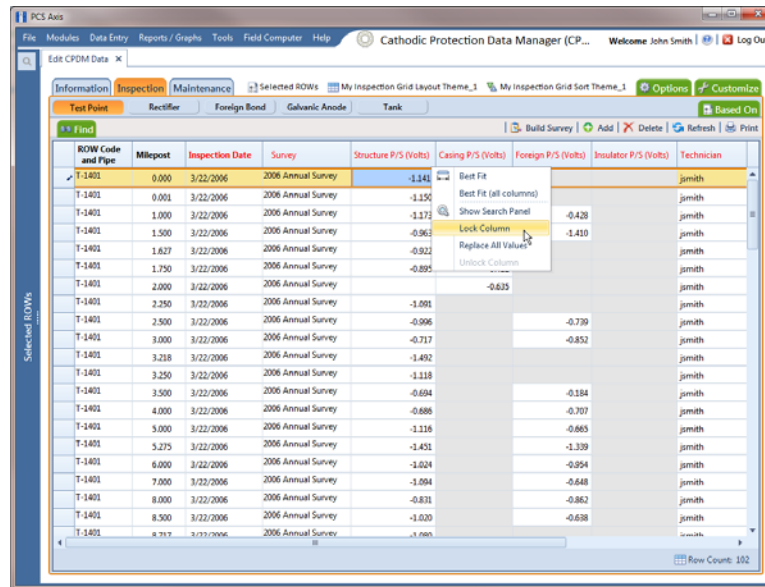

Figure 7-2. Lock Grid Column
- Right-click a grid column and then select **Lock Column** in the shortcut menu that opens (Figure 7-2, page 189).